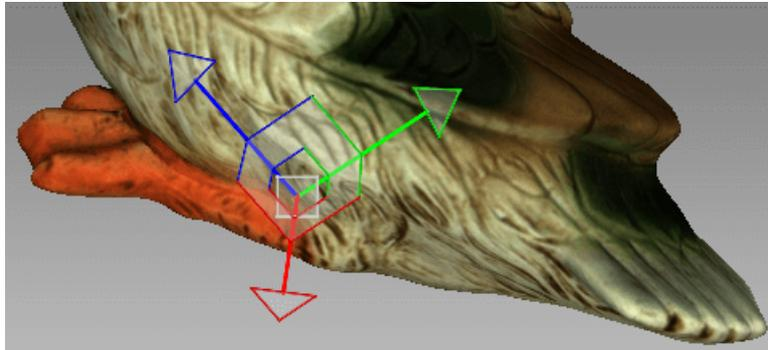

Figure 98: Translation control
- Translate the object in the *3D View* window by dragging the corresponding control (see *Figure 98*):